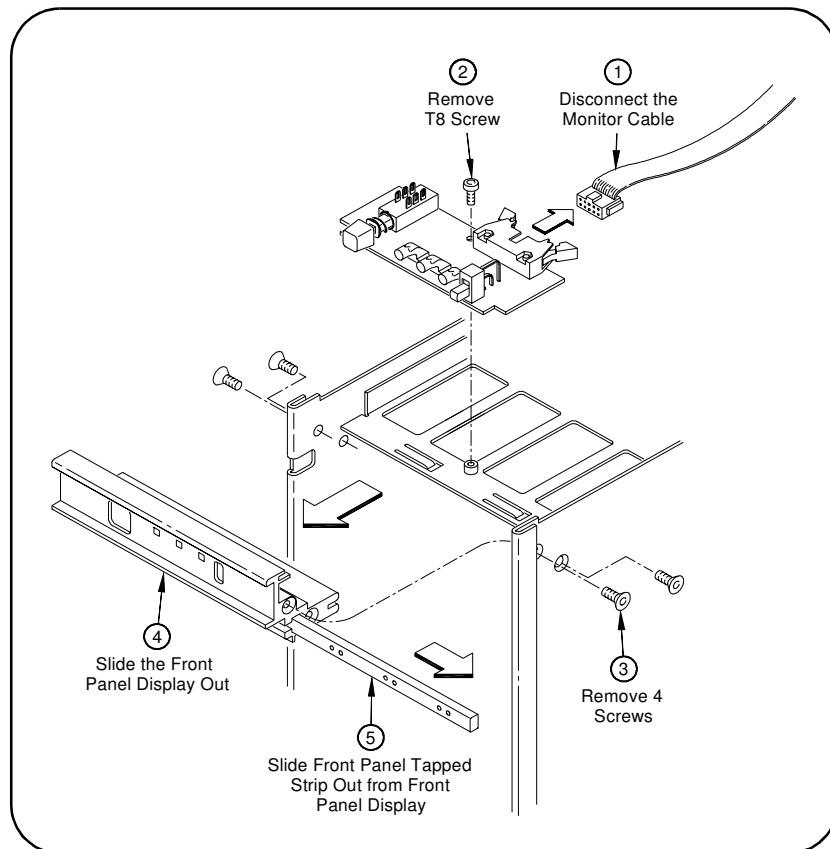

Figure 3-6. Removing the Front Panel Tapped Strip
- 5 Remove the Front Panel Tapped Strip as shown in Figure 3-6.
- 6 Install the replacement Front Panel Tapped Strip by reversing the steps in Figure 3-6.